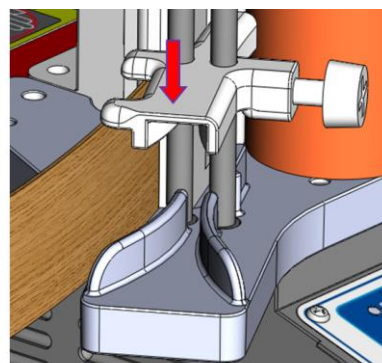

Fig5
- Move down the clamp to touch the edge and set the width of the tape. Tighten the screw (Fig5).